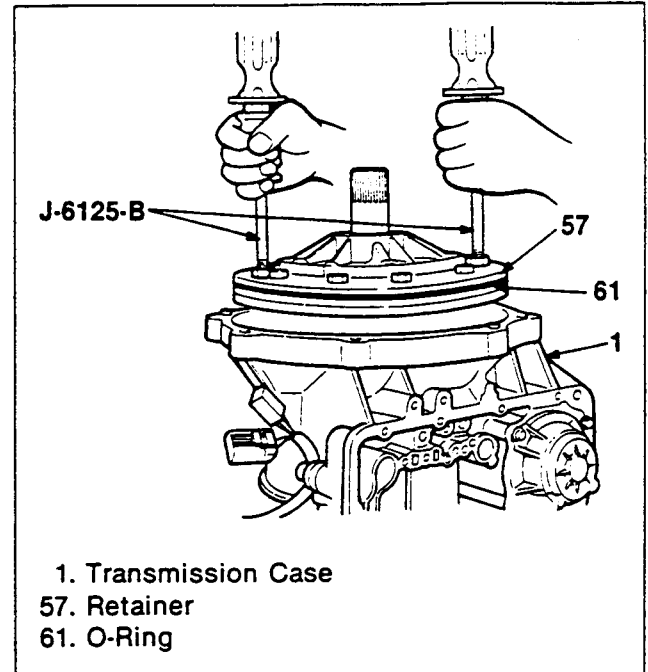

Figure 15. Oil Pump Removal (3)
3. Remove the oil pump assembly from the case using two slide hammers as an oil pump puller (special tool) (figure 15).